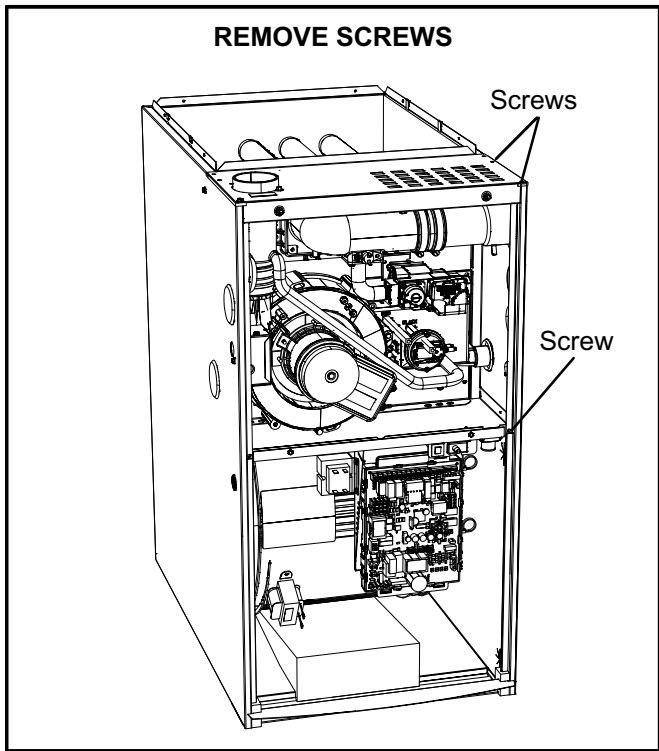

FIGURE 46
- 5 - Remove the air intake coupling. If the air intake coupling is still too difficult to remove, then remove the two screws from the right side of the top cap and one from the far right side of the blower deck that attaches to the cabinet. See figure 46. Carefully pull cabinet side away from air intake coupling, then remove the air intake coupling. **Note: Be careful not to bend the cabinet side.**